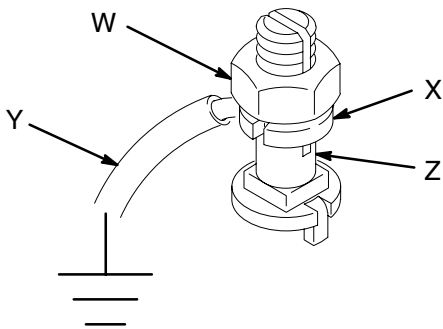

Fig. 2
*All Other Pumps*: use a ground wire and clamp. See Fig. 2. Loosen the grounding lug locknut (W) and washer (X). Insert one end of a 1.5 mm@ (12 ga) minimum ground wire (Y) into the slot in lug (Z) and tighten the locknut securely. Connect the other end of the wire to a true earth ground. Order Part No. 237569 Ground Wire and Clamp.